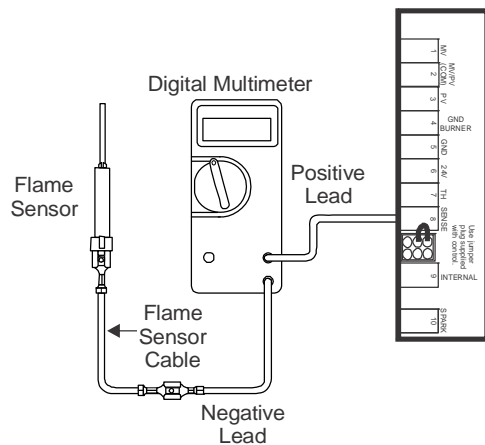

Figure 5: Wiring Diagram for Flame Sensing Current Measurement
1. Measure the output current in the probe circuit using a DC microammeter. Connect the microammeter leads between the sensing probe cable and Terminal 8 on the ignition control. Connect the positive lead to Terminal 8 and the negative lead to the sensing probe cable (Figure 5).